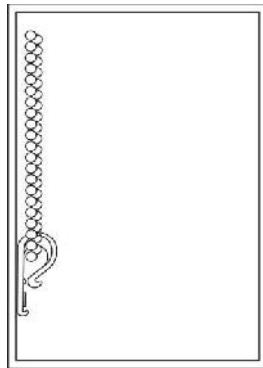

Figure 1
1. Position the tension device at the bottom of the chain loop (Figure 1)